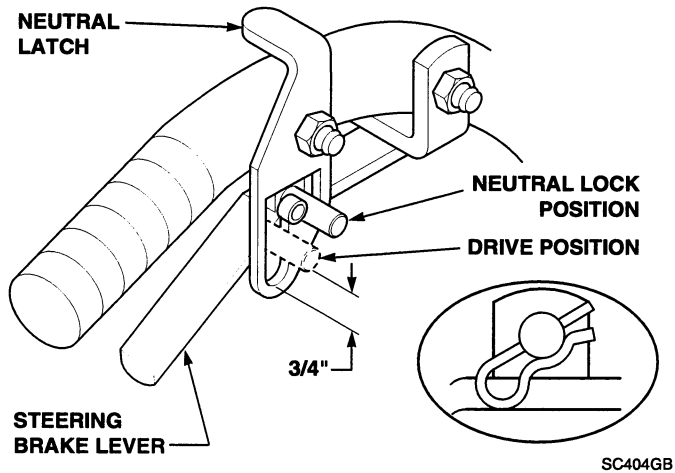

Figure 4. Steering Control Rod Adjustment
1. Adjust the steering control rods so that there is approximately $\frac{3}{4}$ " clearance from the bottom of the rod to the bottom of the neutral latch slot when in the drive position. (See figure 4)